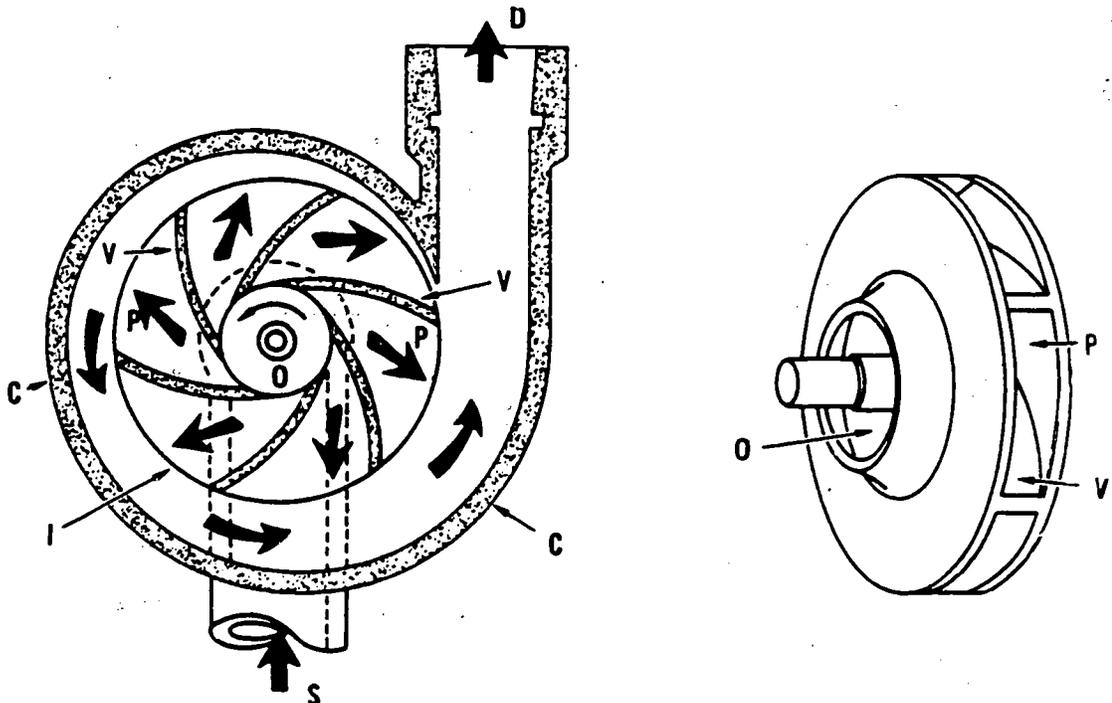

Figure 3-1. Centrifugal pump.
The single-stage centrifugal fire pump consists of a single disklike impeller mounted on a shaft within the pump housing. In figure 3-1, the impeller revolves counterclockwise. Water introduced through the intake (S) enters into the eye of the impeller (O). It is then picked up by curved vanes (V) as they revolve with the impeller, then thrown to the outer edge of the impeller by centrifugal action, and passed through openings (P) into the open space (I) in the casing or pump housing (C). Since the circumference of the impeller disk is greater at the outer edge of the blade-like vanes than it is at the inner edge, the outer edge of the impeller travels faster. In this manner, the velocity of water is increased as it passes through the impeller from the center outward. Likewise, as the rate of rotation of the impeller increases, the velocity with which the water is thrown from the